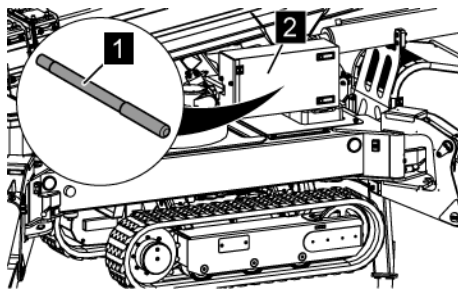

Fig. 144: Removing the hand pump lever
4. ➔ Remove the hand pump lever (Fig. 144/1) from the hydraulic control box (Fig. 144/2).